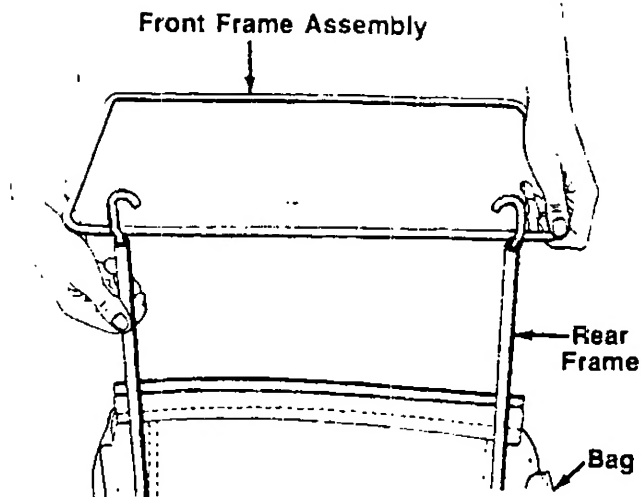

FIGURE 12.
3. Join the rear frame and front frame assembly as shown in figure 12.